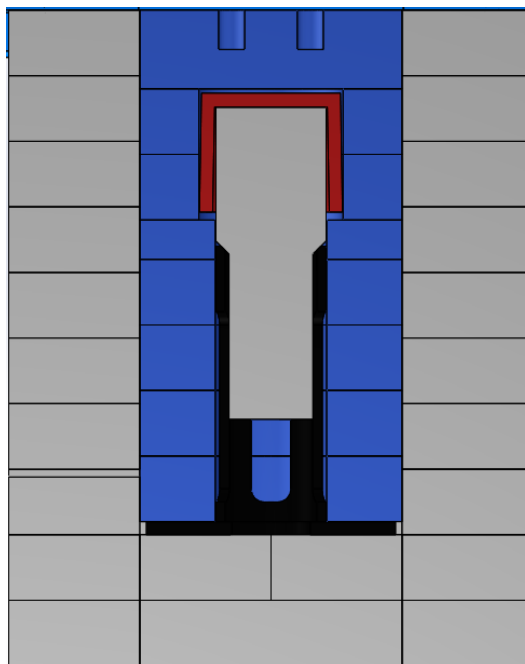

Fig. 4: A possible configuration on the foam filling in the cavity of lead shield.
- b. If the lead shield is not supplied by DTU Physics, users are suggested to find some dense but easy-to-cut foam to fill the space around the detector as much as possible, but leave a space for the gamma cup on the top of the detector. Fig. 4 shows a possible configuration. In the bottom there are four layers of 50 mm thick foam with a hole of 85 mm in diameter (same as the out diameter of plastic detector holder). On the top of these four layers, there is a single layer of 30 mm thick middle layer with a hole of 85 mm in diameter. Then on the top of this 30 mm thick layer, there are two layers of 50 mm thick with a hole of 110 mm in diameter. The top foam layer is 60 mm thick without the big hole and you cover it after you load your sample on the sample by grabbing two small holes on the top.